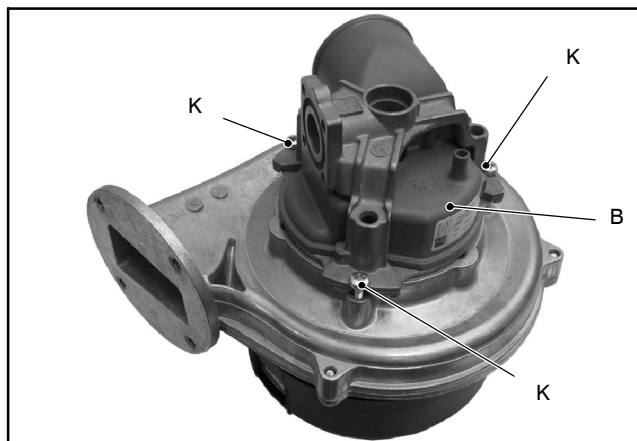

Fig. 17.3
- 11 Remove the screws *K* and the air box *B* (Fig. 17.3).